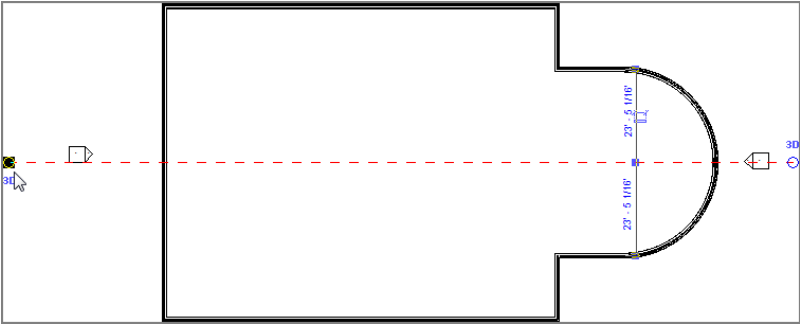

FIGURE 2.3 : You can grip-edit reference planes to the required length.
- 4. Draw the reference plane through the center of the building, extending each end past the exterior walls. (Remember, this is a construction line. You can go long if you need to.) See Figure 2.3 for an idea of where the line should go. If you're having trouble locating the reference points for the start of the reference plane, make sure you're snapping to the midpoint of the walls. You can also type SM to snap to the midpoint of the wall.
- 6. If the line isn't the length you want, you can stretch it. First select the line; at each end, you see blue grips. Simply pick (left-click) the grip, and stretch the reference plane to the desired length, as shown in Figure 2.3.